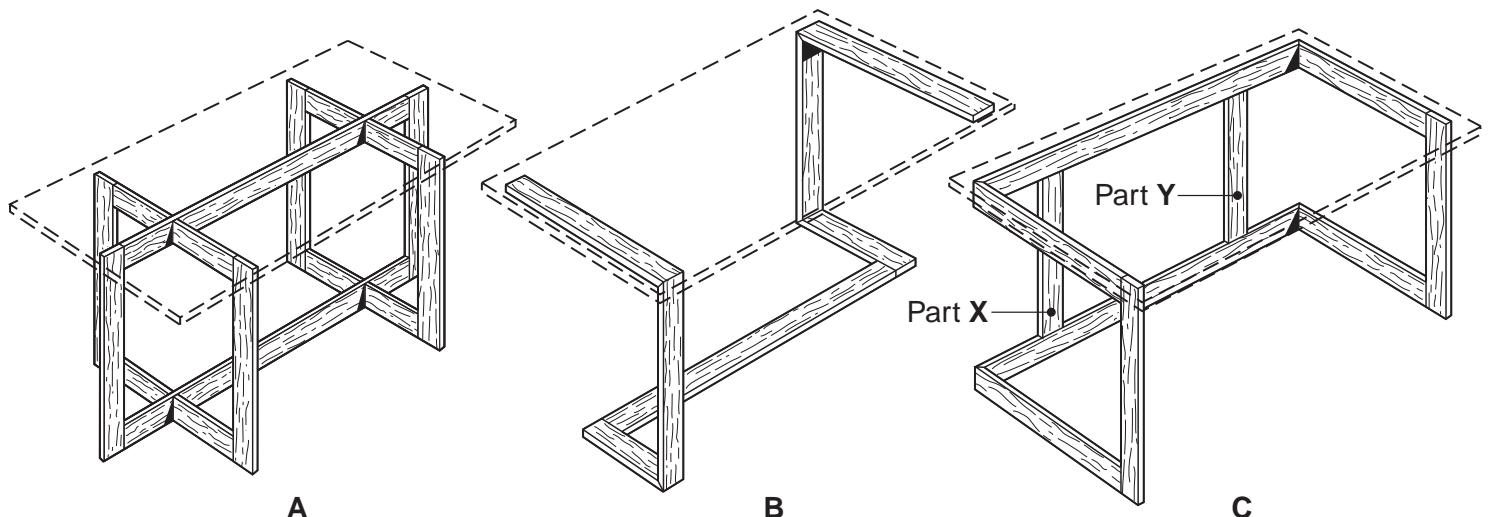

Fig. 4
- 4** Fig. 4 shows a range of frame designs that could be used for an office desk.